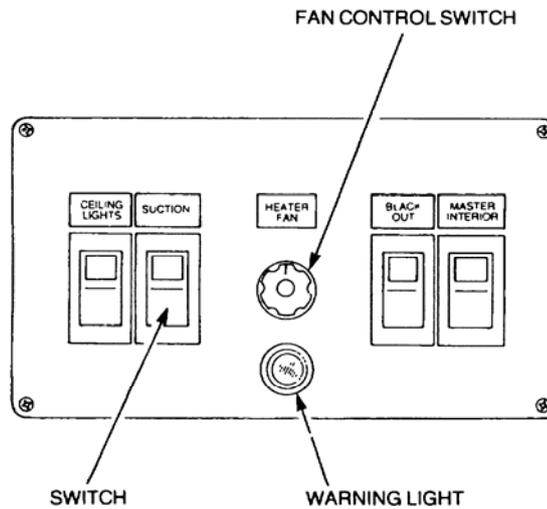

Figure 17 Main Switch Panel Removal
- b. Remove the screws securing the main switch panel to the module (refer Figure 17).